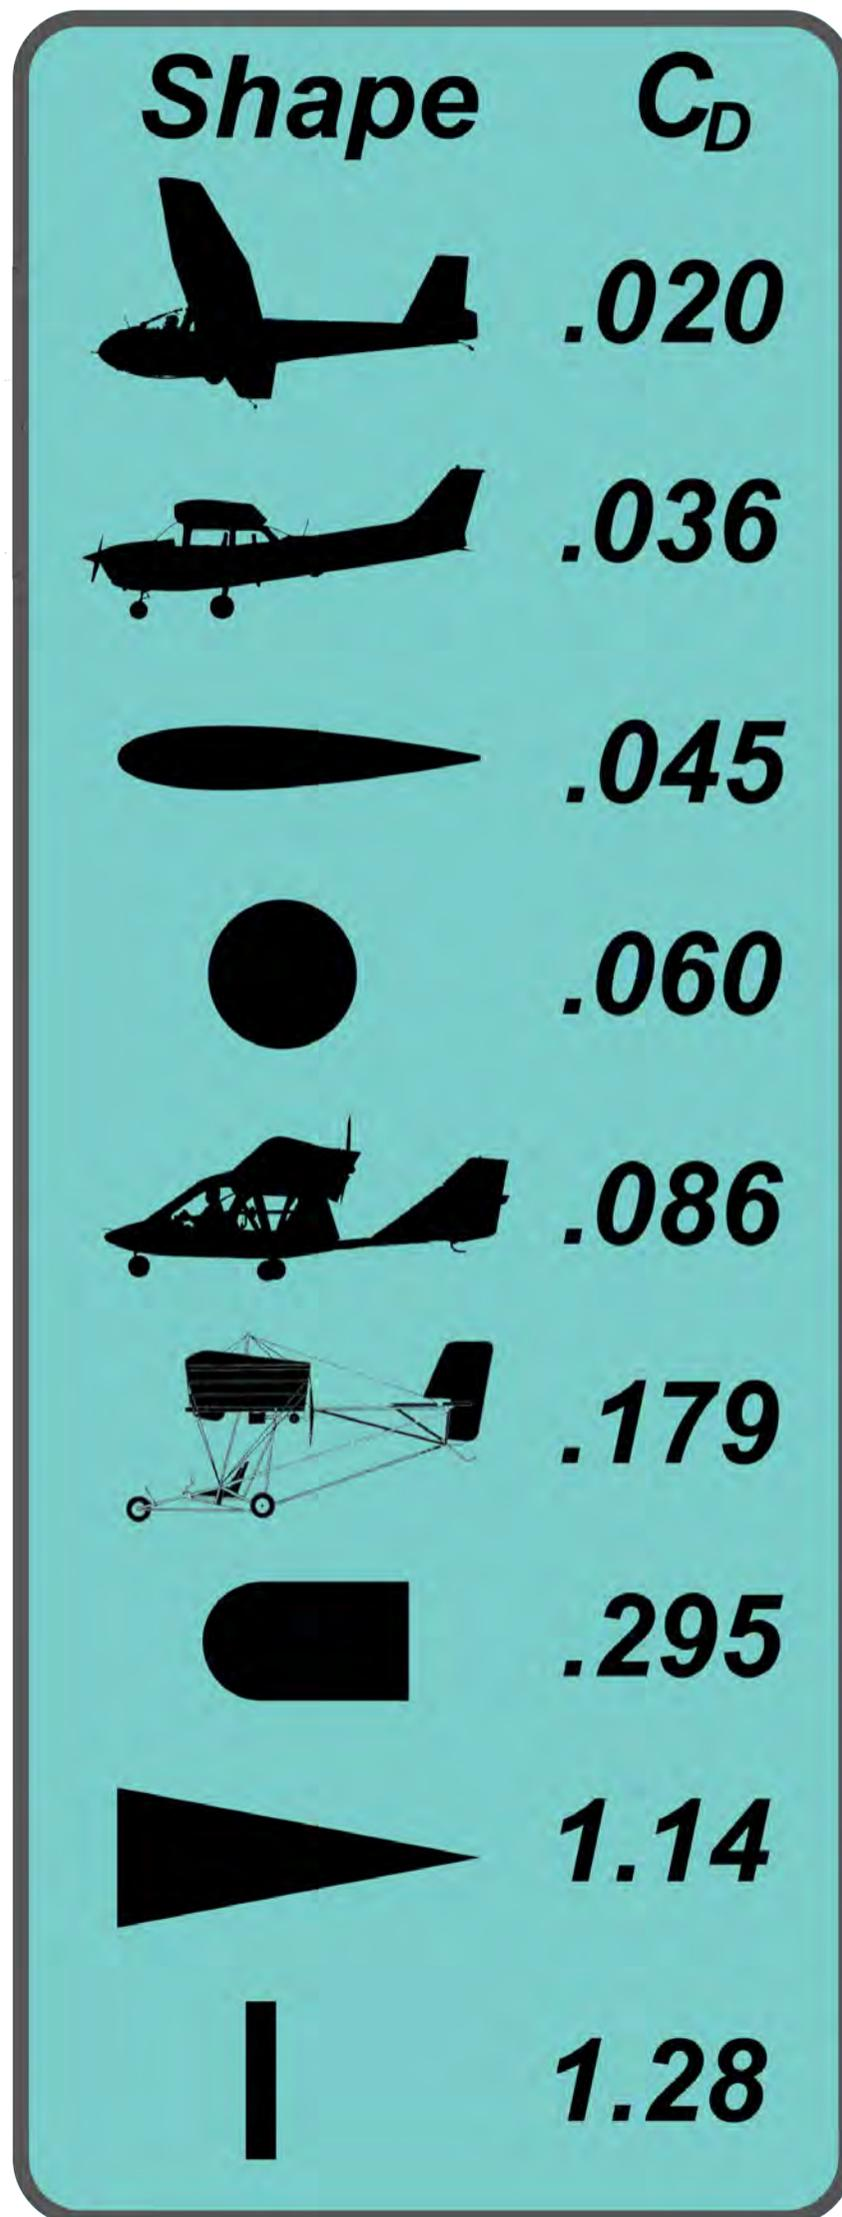

Figure: 1 Shape / Coefficient of Drag
that we are now dealing with only three forms of energy. The energy that is stored as potential and kinetic energy. And the constant “sucking” of that energy in the form of drag to maintain airspeed. It’s often difficult to wrap our minds around really how much drag is on a particular aircraft. If we look at the formula for calculating drag figure (Figure: 2), we can see that it isn’t really all that complicated. For a given velocity and air density it is really the (size (A) of the object or aircraft) x (the shape of the object (drag coefficient)) that determines the total drag force. The coefficient of drag is a dimensionless variable generally derived from wind tunnel testing to account for the many nuances of drag as a result of very complex shapes and interactions with the air.(Figure: 1) It is helpful to be able to visualize the difference that the coefficient of drag makes on the total drag. In our graphic we can see that, if all other things are equal, there would be nearly nine times the amount of drag on our ultralight compared to the basic glider. In Thurston’s book “Design For Flying” he gives us two formulas for the layperson that become helpful in understanding drag. (Figure: 3) The premise for these formulas is the principle that in unaccelerated flight, thrust equals drag. Using a conservative propeller efficiency of, let’s say, .75 at maximum power, we can now extract an approximation of both the coefficient of drag total, and the total drag opposing thrust. When we look at these high drag low mass aircraft closely,